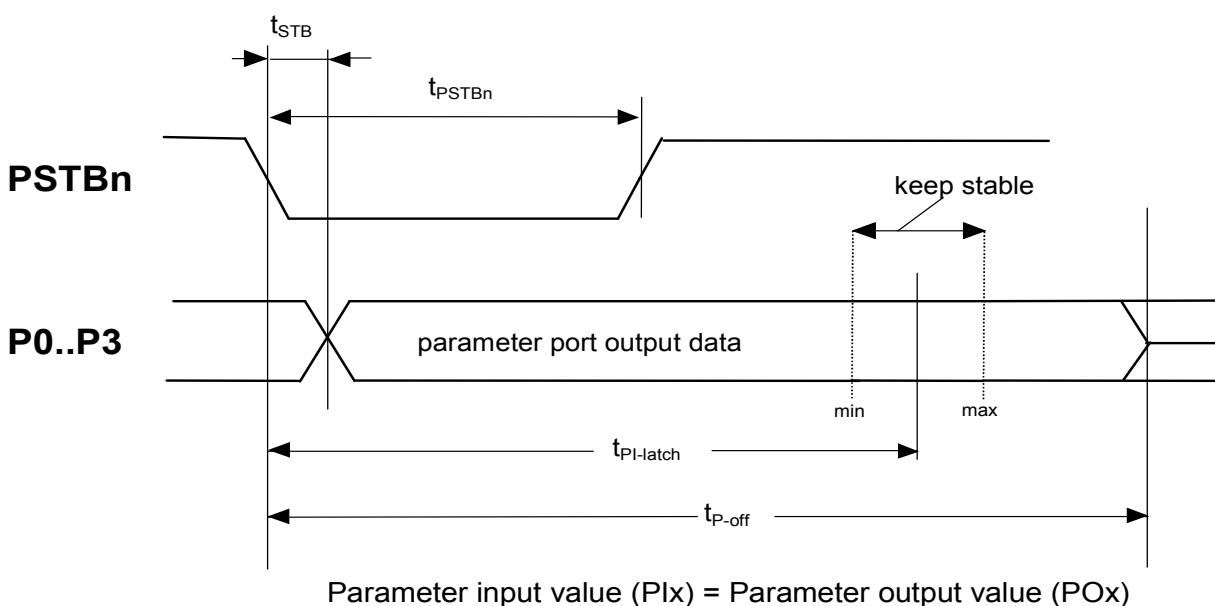
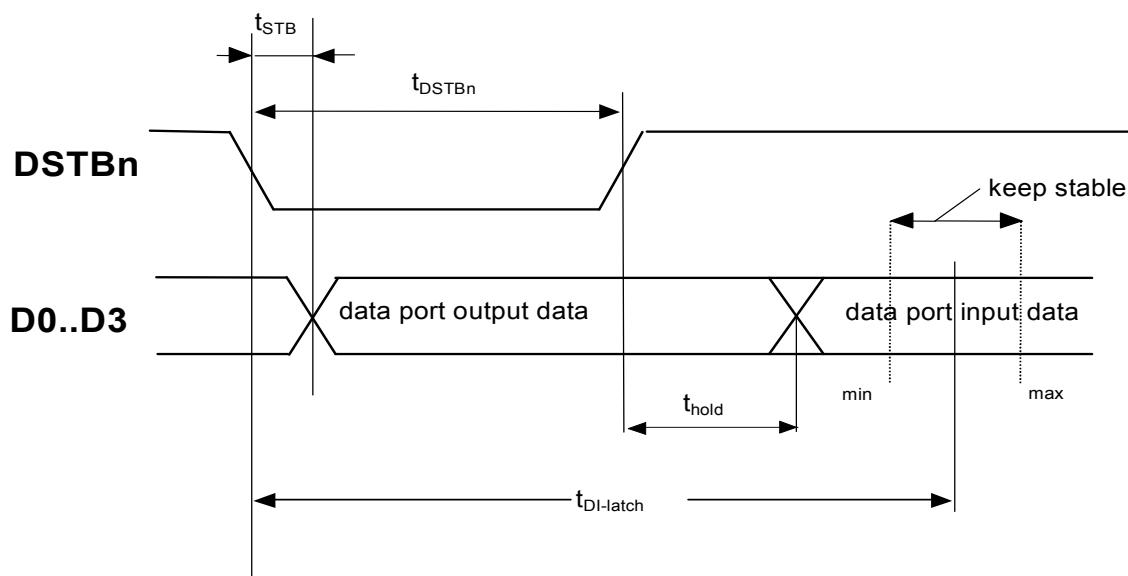

Figure 6: Timing Diagram Parameter Port P0 ... P3, PSTBn
Figure 7: Timing diagram data port D0 ... D3 and DSTBn
The availability of new parameter output data is signaled by the Parameter Strobe (PSTBn) signal as shown in Figure 6.
The availability of new output data is signaled by the Data Strobe (DSTBn) signal as shown in Figure 7. The DSTBn pin has an additional reset input function, which is described further in chapter 4.13 IC Reset.
Running in Synchronous Mode, the SAP5 generates the Data Strobe (DSTBn) signal as well, whereas the timing of input sampling and output buffering exactly corresponds to the regular operation (refer to Figure 7 and Table 21).
- It generates Data and Parameter Strobe signals at the DSTBn and PSTBn pins with timing according to Figure 6 and Figure 7.
- **I/O:** bi-directional port with timing according to Figure 6 and Figure 7